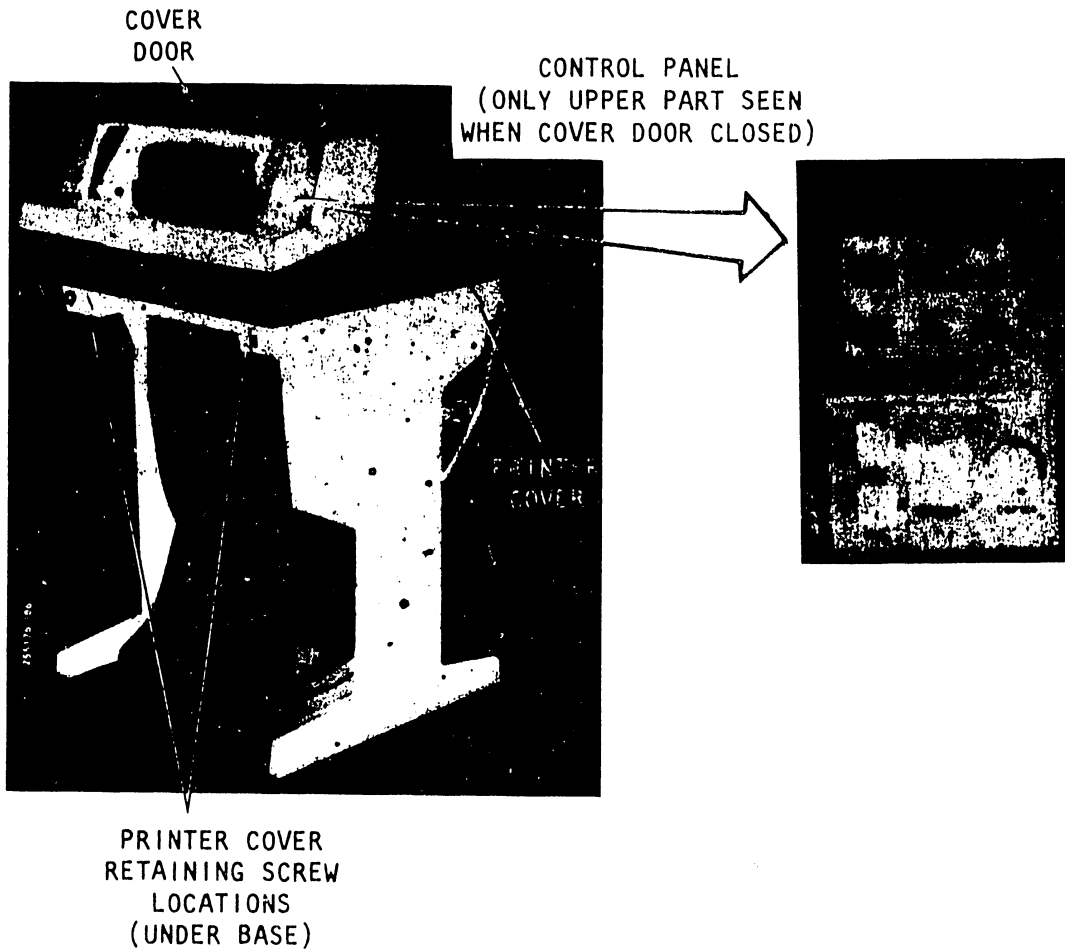

Figure 4-3. Control Panel Switches
Control Panel Switches	Paragraph 4.4, Figure 4-3
Removing the Printer Cover	Paragraph 4.5, Figures 4-3, 4-4
4.4 CONTROL PANEL SWITCHES (Figure 4-3)
Two control panel switches are often used in the troubleshooting procedures: **ON/OFF LINE** and **ALARM/CLEAR**. Figure 4-3 shows the control panel switches and the location of the **STATUS** display.
4.5 REMOVING THE PRINTER COVER (Figures 4-3 and 4-4)
4.5.1 Printer Cover Removal/Installation (Figures 4-3 and 4-4)
- d. Remove the two retaining screws that secure the printer cover to the printer base. See figure 4-3 for the location of the screws.
- e. Install the two retaining screws. See figure 4-3 for the location of the screws.